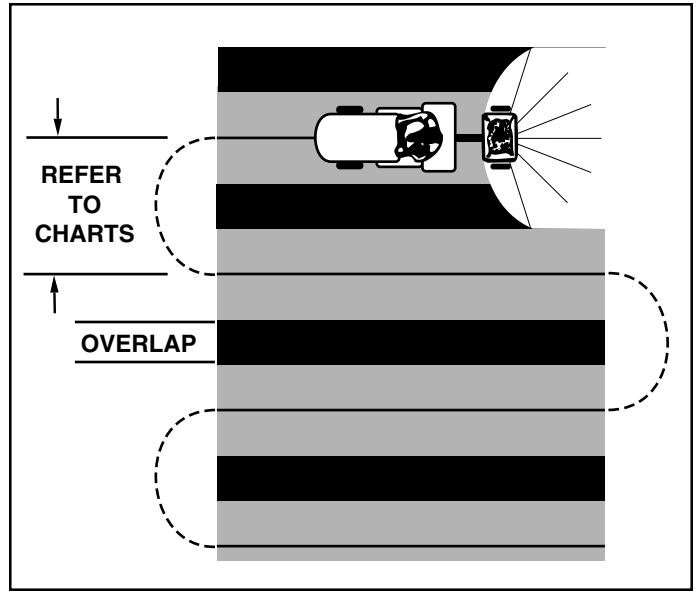

FIGURE 13
9. To insure uniform coverage, make each pass so that the broadcast pattern slightly overlaps the pattern from the previous pass as shown in figure 13. The approximate broadcast widths for different materials are shown in the application chart on this page.